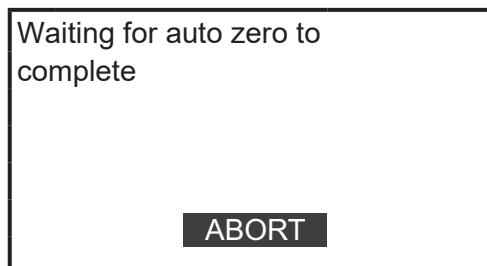

Figure 33 Zero point adjustment in progress message
5. While zero point adjustment is in progress, the screen remains unchanged. (Figure 33) If F3 (ABORT) is pressed here, zero point adjustment is canceled